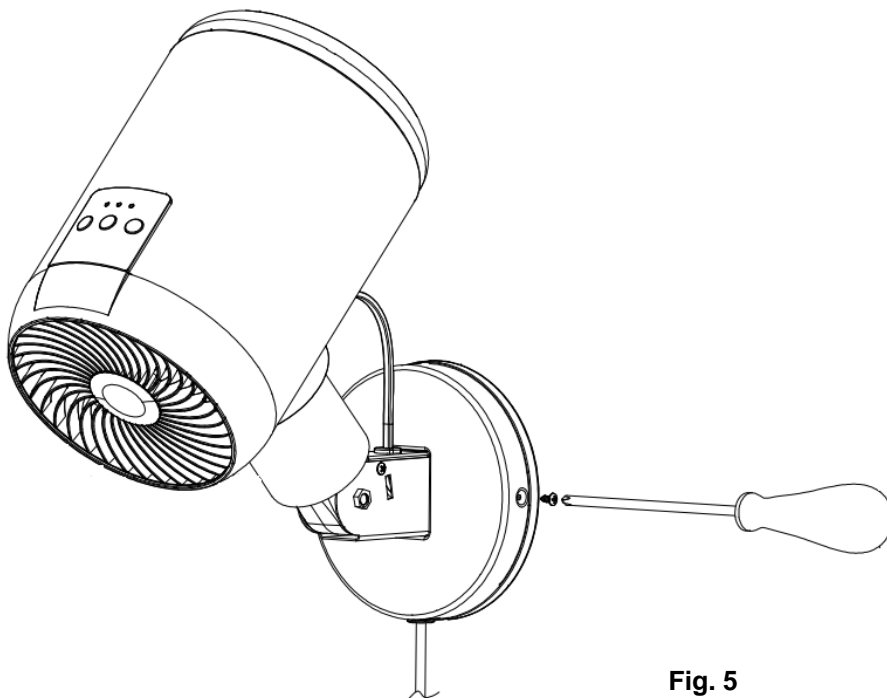

Fig. 5
- Install the fan assembly onto the mounting bracket and secure it by tightening the screws on the side.(Fig.5)